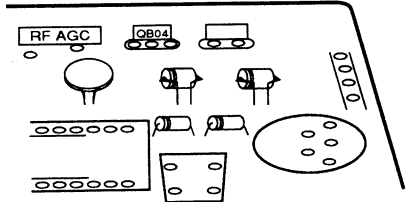

Fig. 11
- Mount the replacement part so that it does not touch any other parts. (Fig. 11)